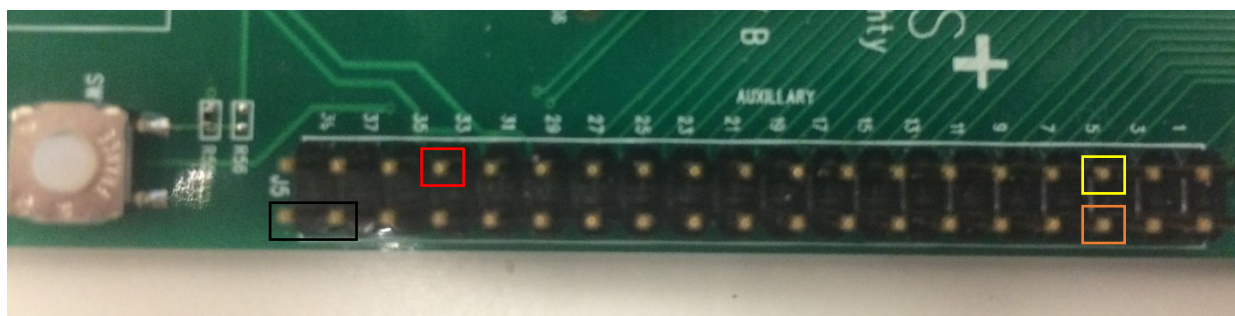

Figure 34: Wire Colors on J7 connector pins
2. Connect the wires to the J5 connector on EVK board in a method that described in table 8 and figures 34.